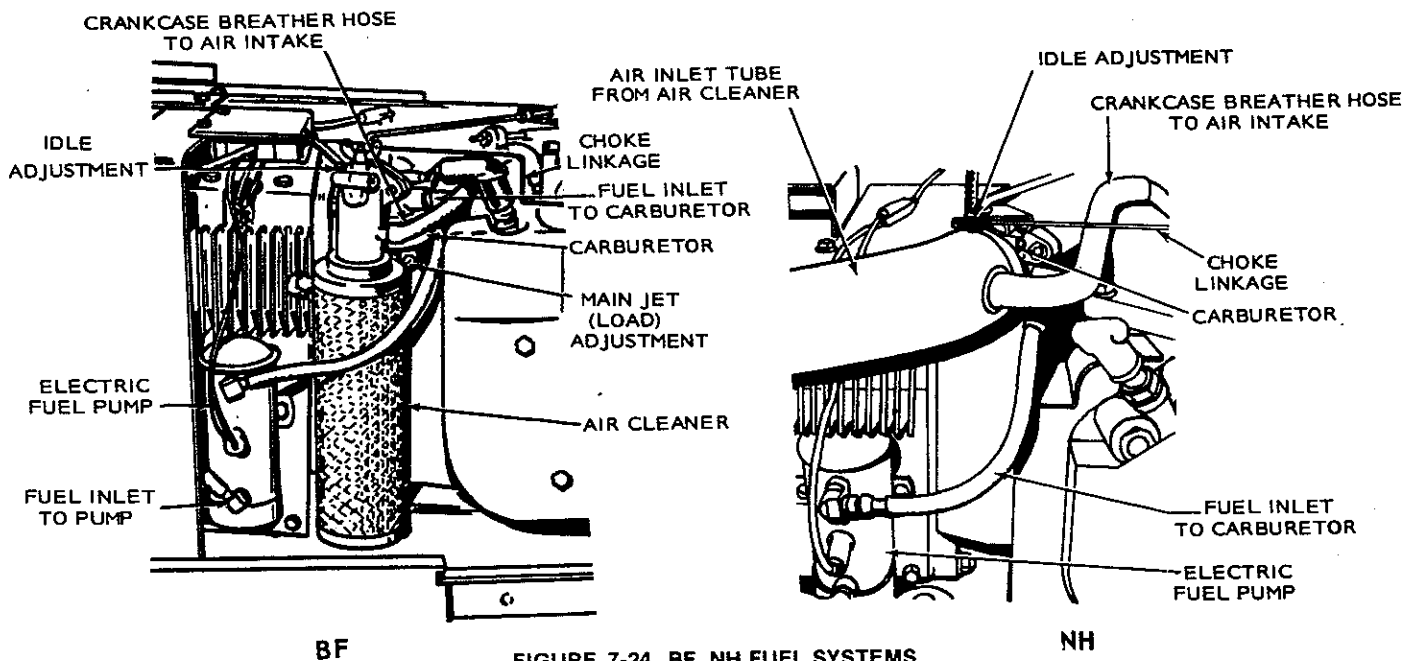

FIGURE 7-24. BF, NH FUEL SYSTEMS
1. Disconnect fuel inlet hose, crankcase breather hose and air inlet hose, Figure 7-24.